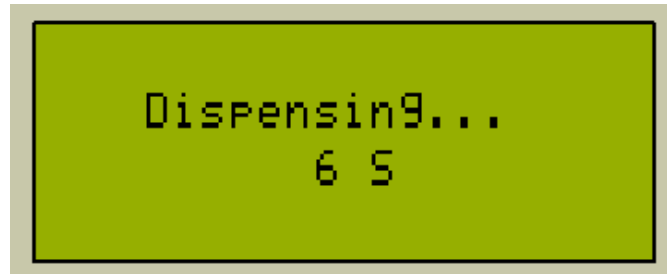

Fig. 5. Count down time display.
7. [OPTIONAL] While the system is dispensing, you can also display a count down in seconds just below the "Dispensing..." string (see Figure 5).